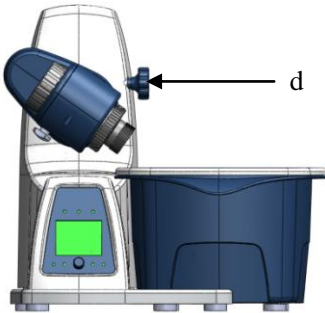

Figure 8
- Set the drive at an angle of approx.  $30^\circ$  (Figure 8)